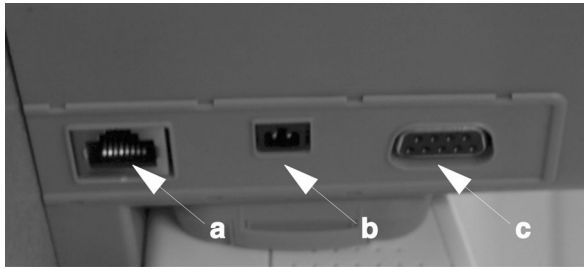

Figure 6-14. Connectors,
- Enter the key code "WEP key 1". Contact your network administrator to obtain this code.
- Disconnect the line from port a (Figure 6-14).